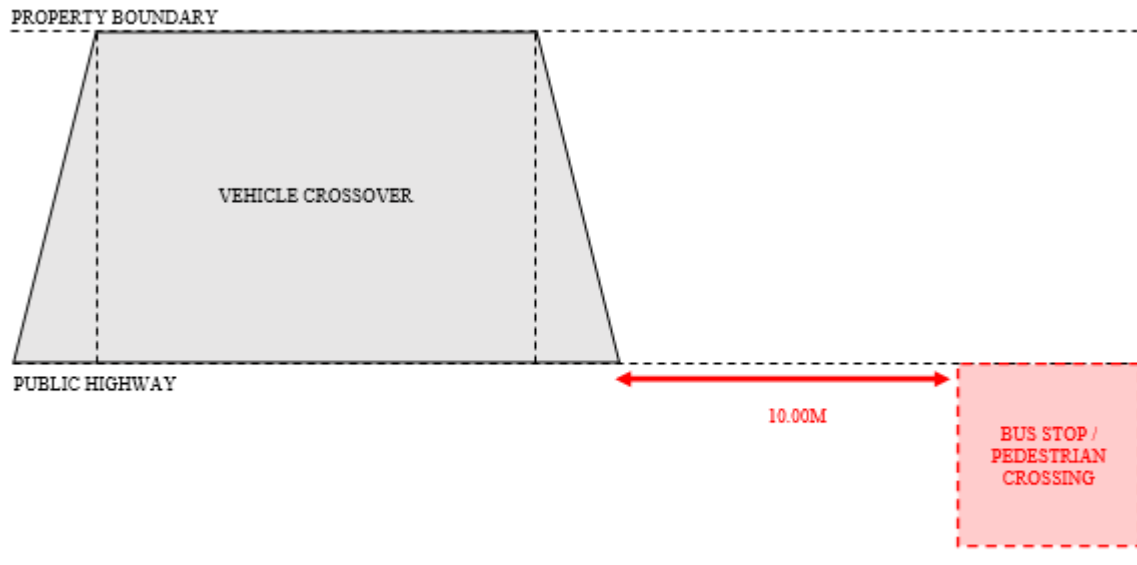
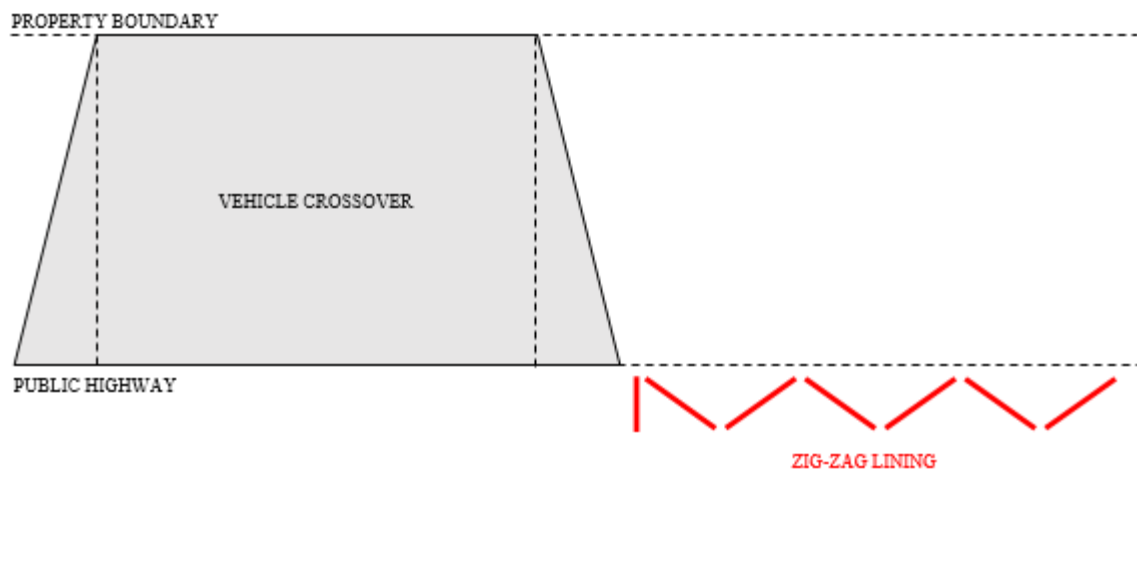

Figure 7: Required Distance From Bus Stops / Pedestrian Crossings
Figure 8: Required Clearance From Zig-Zag Lining
- Figure 7: Required distance from bus stops/pedestrian crossings
- Figure 8: Required clearance from zig-zag lining
- e) **Proximity to Bus Stops and Pedestrian Crossings** – A proposed vehicle crossover or extension must **not be within 10m** of any formal pedestrian crossing or refuge (including zebra crossings and signalised crossings such as pelicans and toucans), bus stop or a bus cage, as shown in Figure 7, below. Additionally, it must not encroach into or affect any zig-zag road markings, as shown in Figure 8, below.